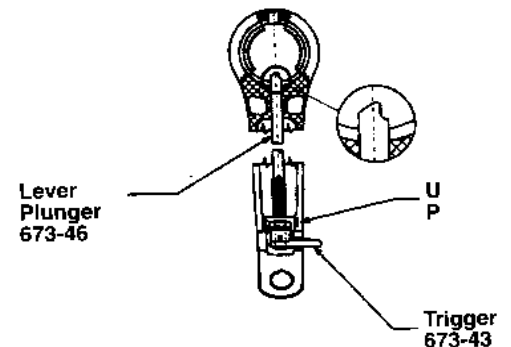

Figure 5-2
- f. Maintain the proper relationship of the lever plunger (673-46) and the trigger (673-43) as shown in figure 5-2